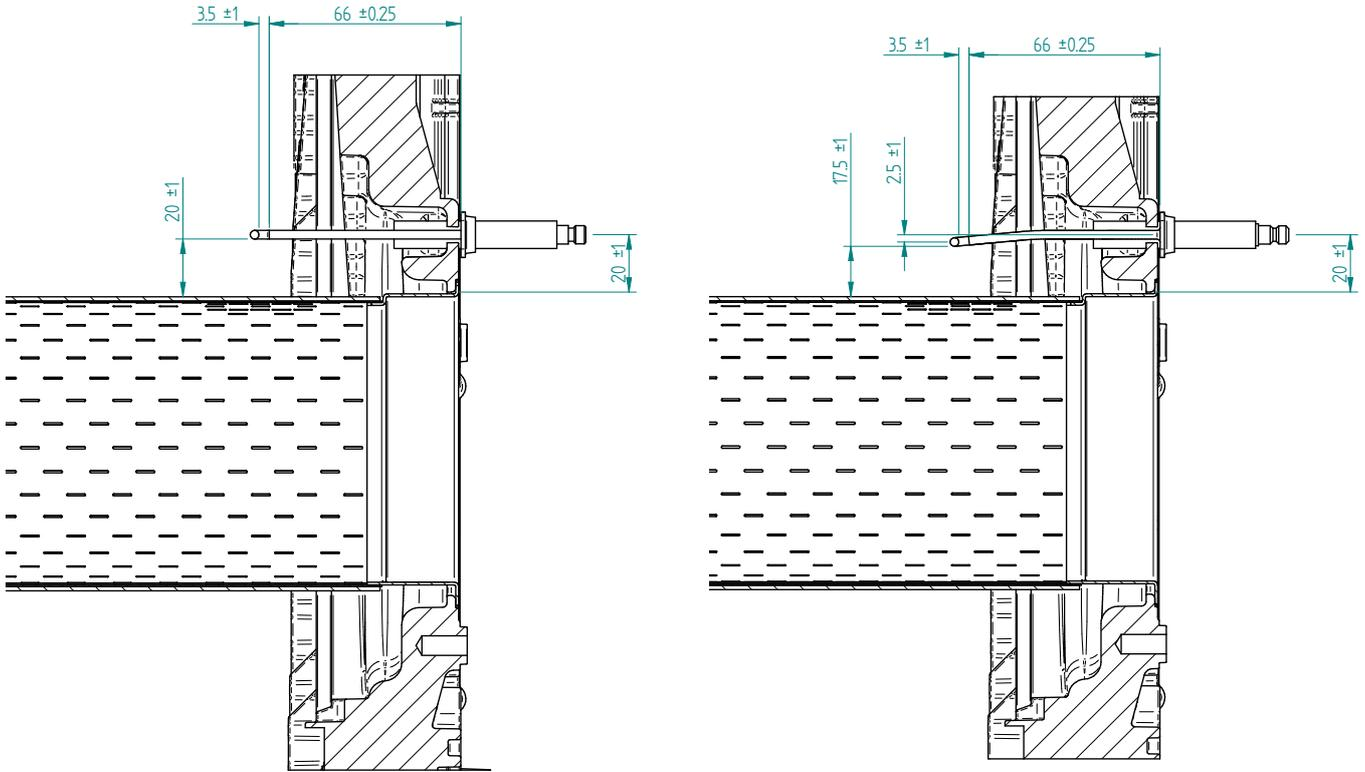

Figure 10.2.1 - Spark Electrode position
- 7) Remove and inspect H.T. electrode and flame probe, ensure they are free from debris or deposits. – See Figures 10.2.1 & 10.2.2
To check the position of the electrode and probe in relation to the burner, remove the burner and refer to Figures 10.2.1 & 10.2.2